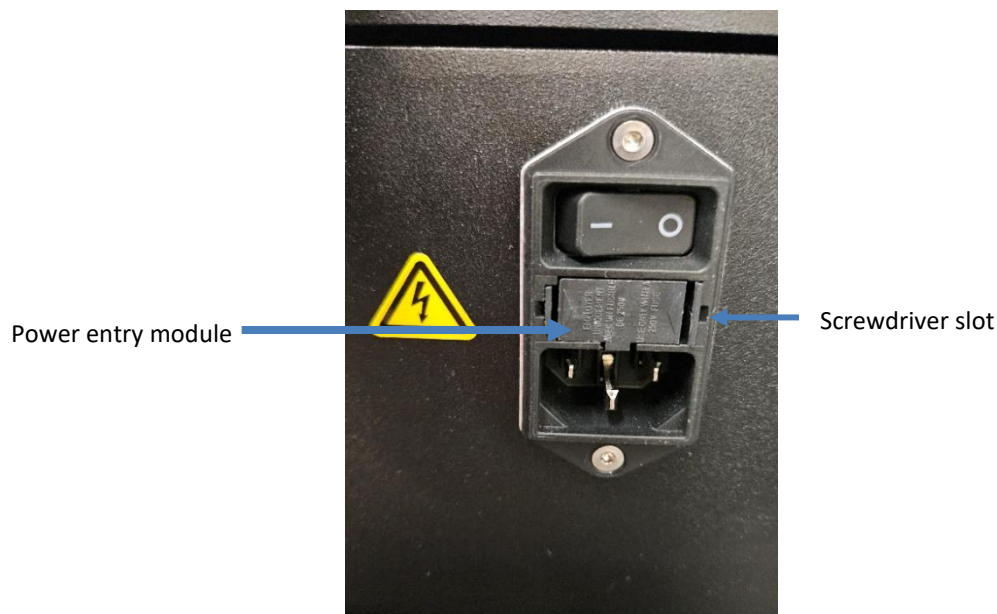

Figure 4. Fuse Replacement; Main Power
2. Remove the cover of the power entry module using a screwdriver in the screwdriver slot (see **Figure 4**).